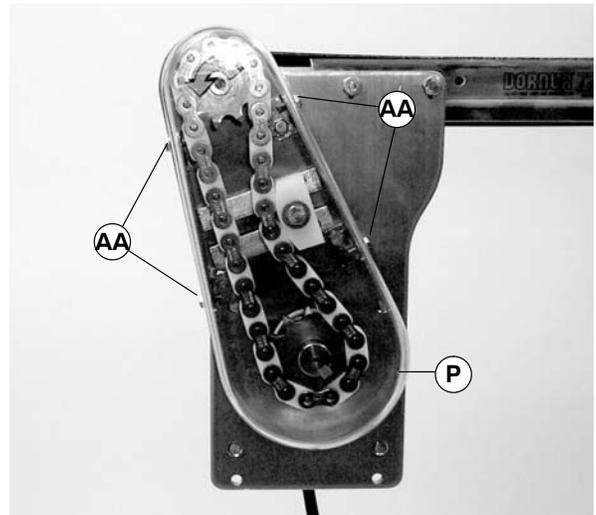

Figure 15
NOTE: Do not over-tighten screws (AA of Figure 15).
8. Install cover (P of Figure 15) and tighten four screws (AA) to 35 in-lb (4 Nm).